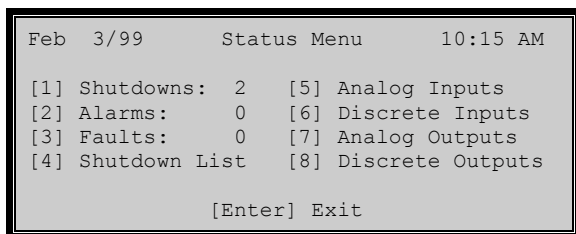

Figure 7-1
- (b) The STATUS MENU Figure 7-1 will be displayed.